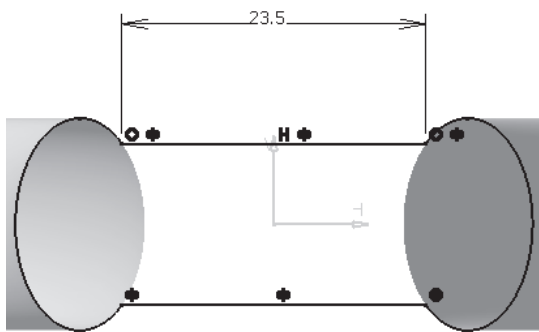

Figure 10-69 The first section for creating the multi-section surface
- Create the multi-sections surface, refer to Figures 10-69 through 10-71.
3. Complete the sketch, as shown in Figure 10-69, and exit the **Sketcher** workbench.